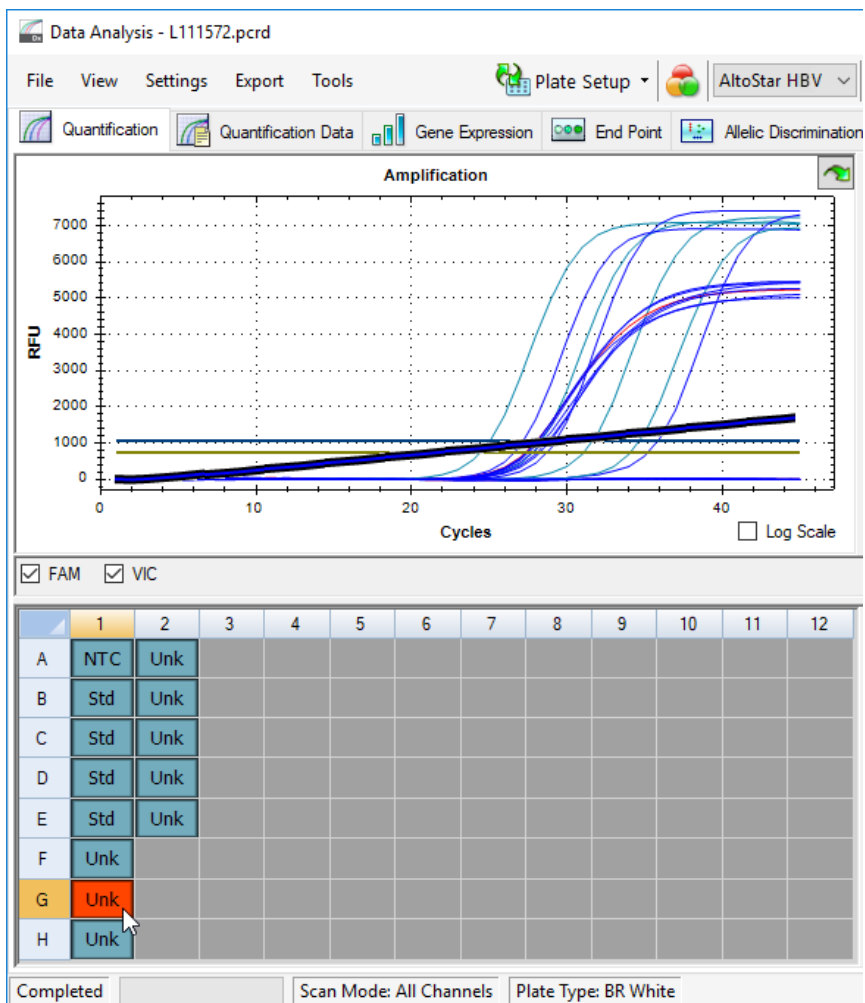

Figure 6: Data Analysis window: irregular PCR signal
2. Identify wells with irregular PCR signals (linear signal increase, signal spikes, etc.) in any of the FAM™ (HBV target) and the VIC™ (IC) detection channels (see figure 6).